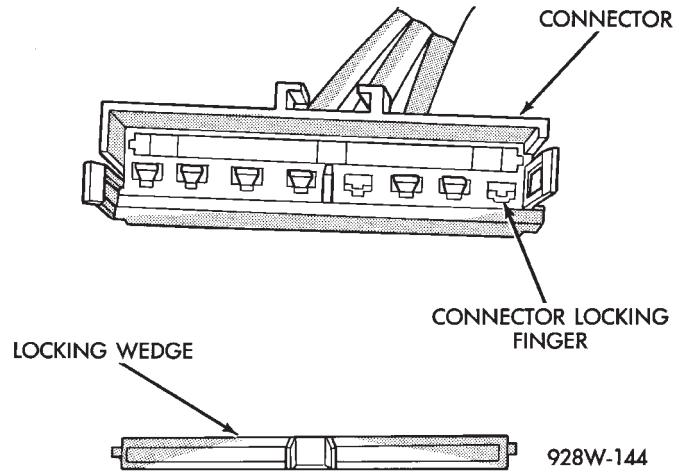

Fig. 8 Connector Locking Finger and Locking Wedge
- (4) Position the connector locking finger away from the terminal. Pull on the wire to remove the terminal from the connector (Fig. 8).
- (5) Reset the terminal locking tang, if it has one.
- (6) Insert the removed wire in the same cavity on the repair connector.
- (7) Repeat steps four thru six for each wire in the connector, being sure that all wires are inserted into
- (5) Cut the wire 6 inches from the back of the connector.
- (6) Remove 1 inch of insulation from the wire on the harness side.
- (7) Select a wire from the terminal repair assembly that best matches the color wire being repaired.
- (8) Cut the repair wire to the proper length and remove 1 inch of insulation.
- (9) Place a piece of heat shrink tubing over one side of the wire. Make sure the tubing will be long enough to cover and seal the entire repair area.